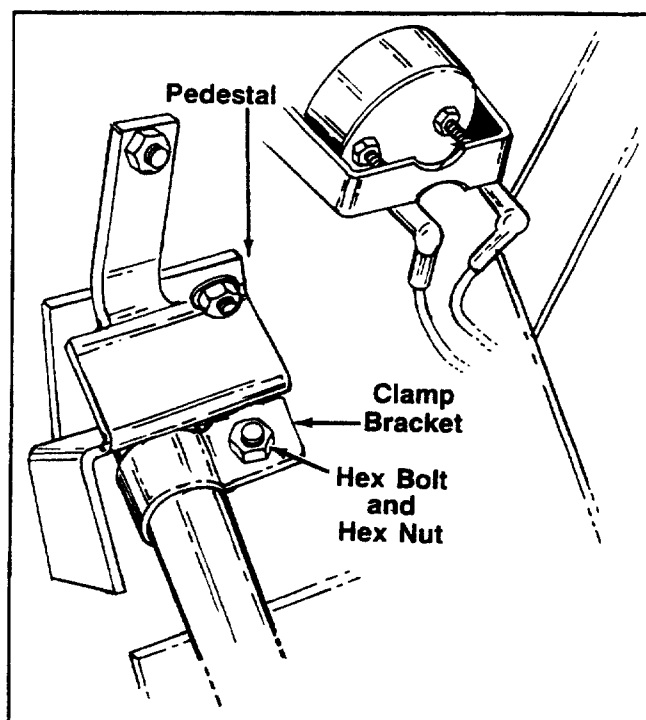

FIGURE 10.
9. Loosen clamp bracket mounted to the pedestal, by removing/loosening the hex bolt and hex nut. See figure 10.
- D. Reinstall or retighten hardware on clamp bracket mounted on pedestal (left loose or removed in disassembly section, step 9, figure 10) securely.